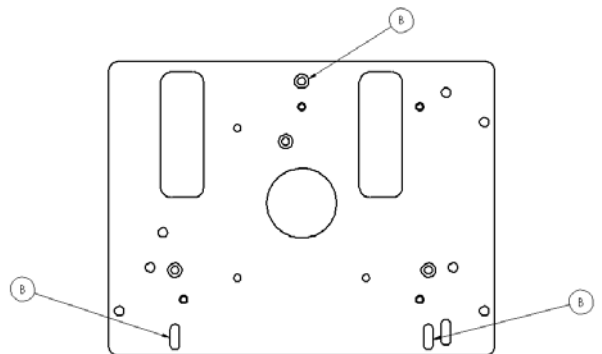

Figure 2. Group B Hole Alignment
4. Using Figure 2, find the proper mounting holes in SLB-9000 for your projector.